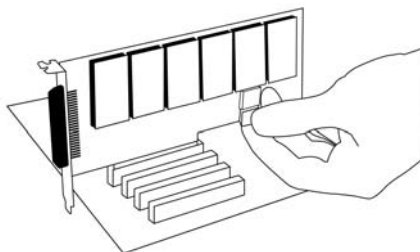

Figure 7: Connect Power for FXS Quad Modules
4. If your card has any FXS quad modules, you will also need to connect the power cable from your computer's power supply to the bottom of the card. Insert a four-pin 12 volt connector (disk drive power supply cable, e.g. hard drive) into the white plastic connector on the bottom of the card. See Figure 7.